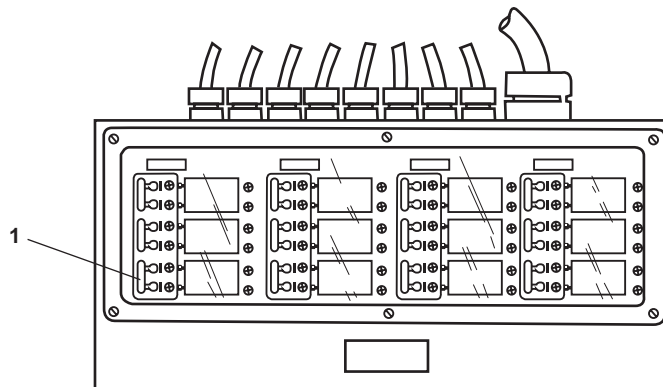

Figure 4. Machinery DC Control Distribution Panel
7. At the 440V power panel No. 1, set the LUBE OIL TRANSFER PUMP circuit breaker (figure 4, item 1) to OFF.
- a. In the engine room on the aft bulkhead of the EOS, at the machinery DC control distribution panel, set/verify that the FUEL OIL DAY TANKS (P&S) HIGH LEVEL ALARM circuit breaker (figure 4, item 1) is set to ON.